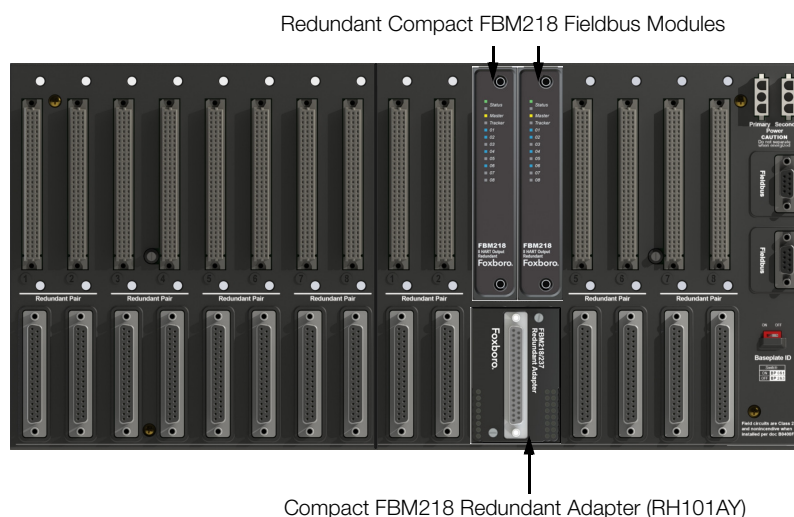

Figure 1. Compact FBM218 Redundant Module Configuration
A pair of the modules combines to provide redundancy at the Fieldbus Module (FBM) level, with field output signals wired to one common termination assembly (see Figure 1). In this configuration, one Compact FBM218 is the Master, and the other is the Tracker.
Redundant modules must be located in adjacent positions on the baseplate, with the first module located in an odd-numbered position (for example, the positions labelled “3” and “4”). To achieve redundancy, a redundant adapter module is placed on the two adjacent baseplate termination cable connectors to provide termination for a single cable (see Figure 1). A single termination cable connects from the redundant adapter to the associated termination assembly (TA).